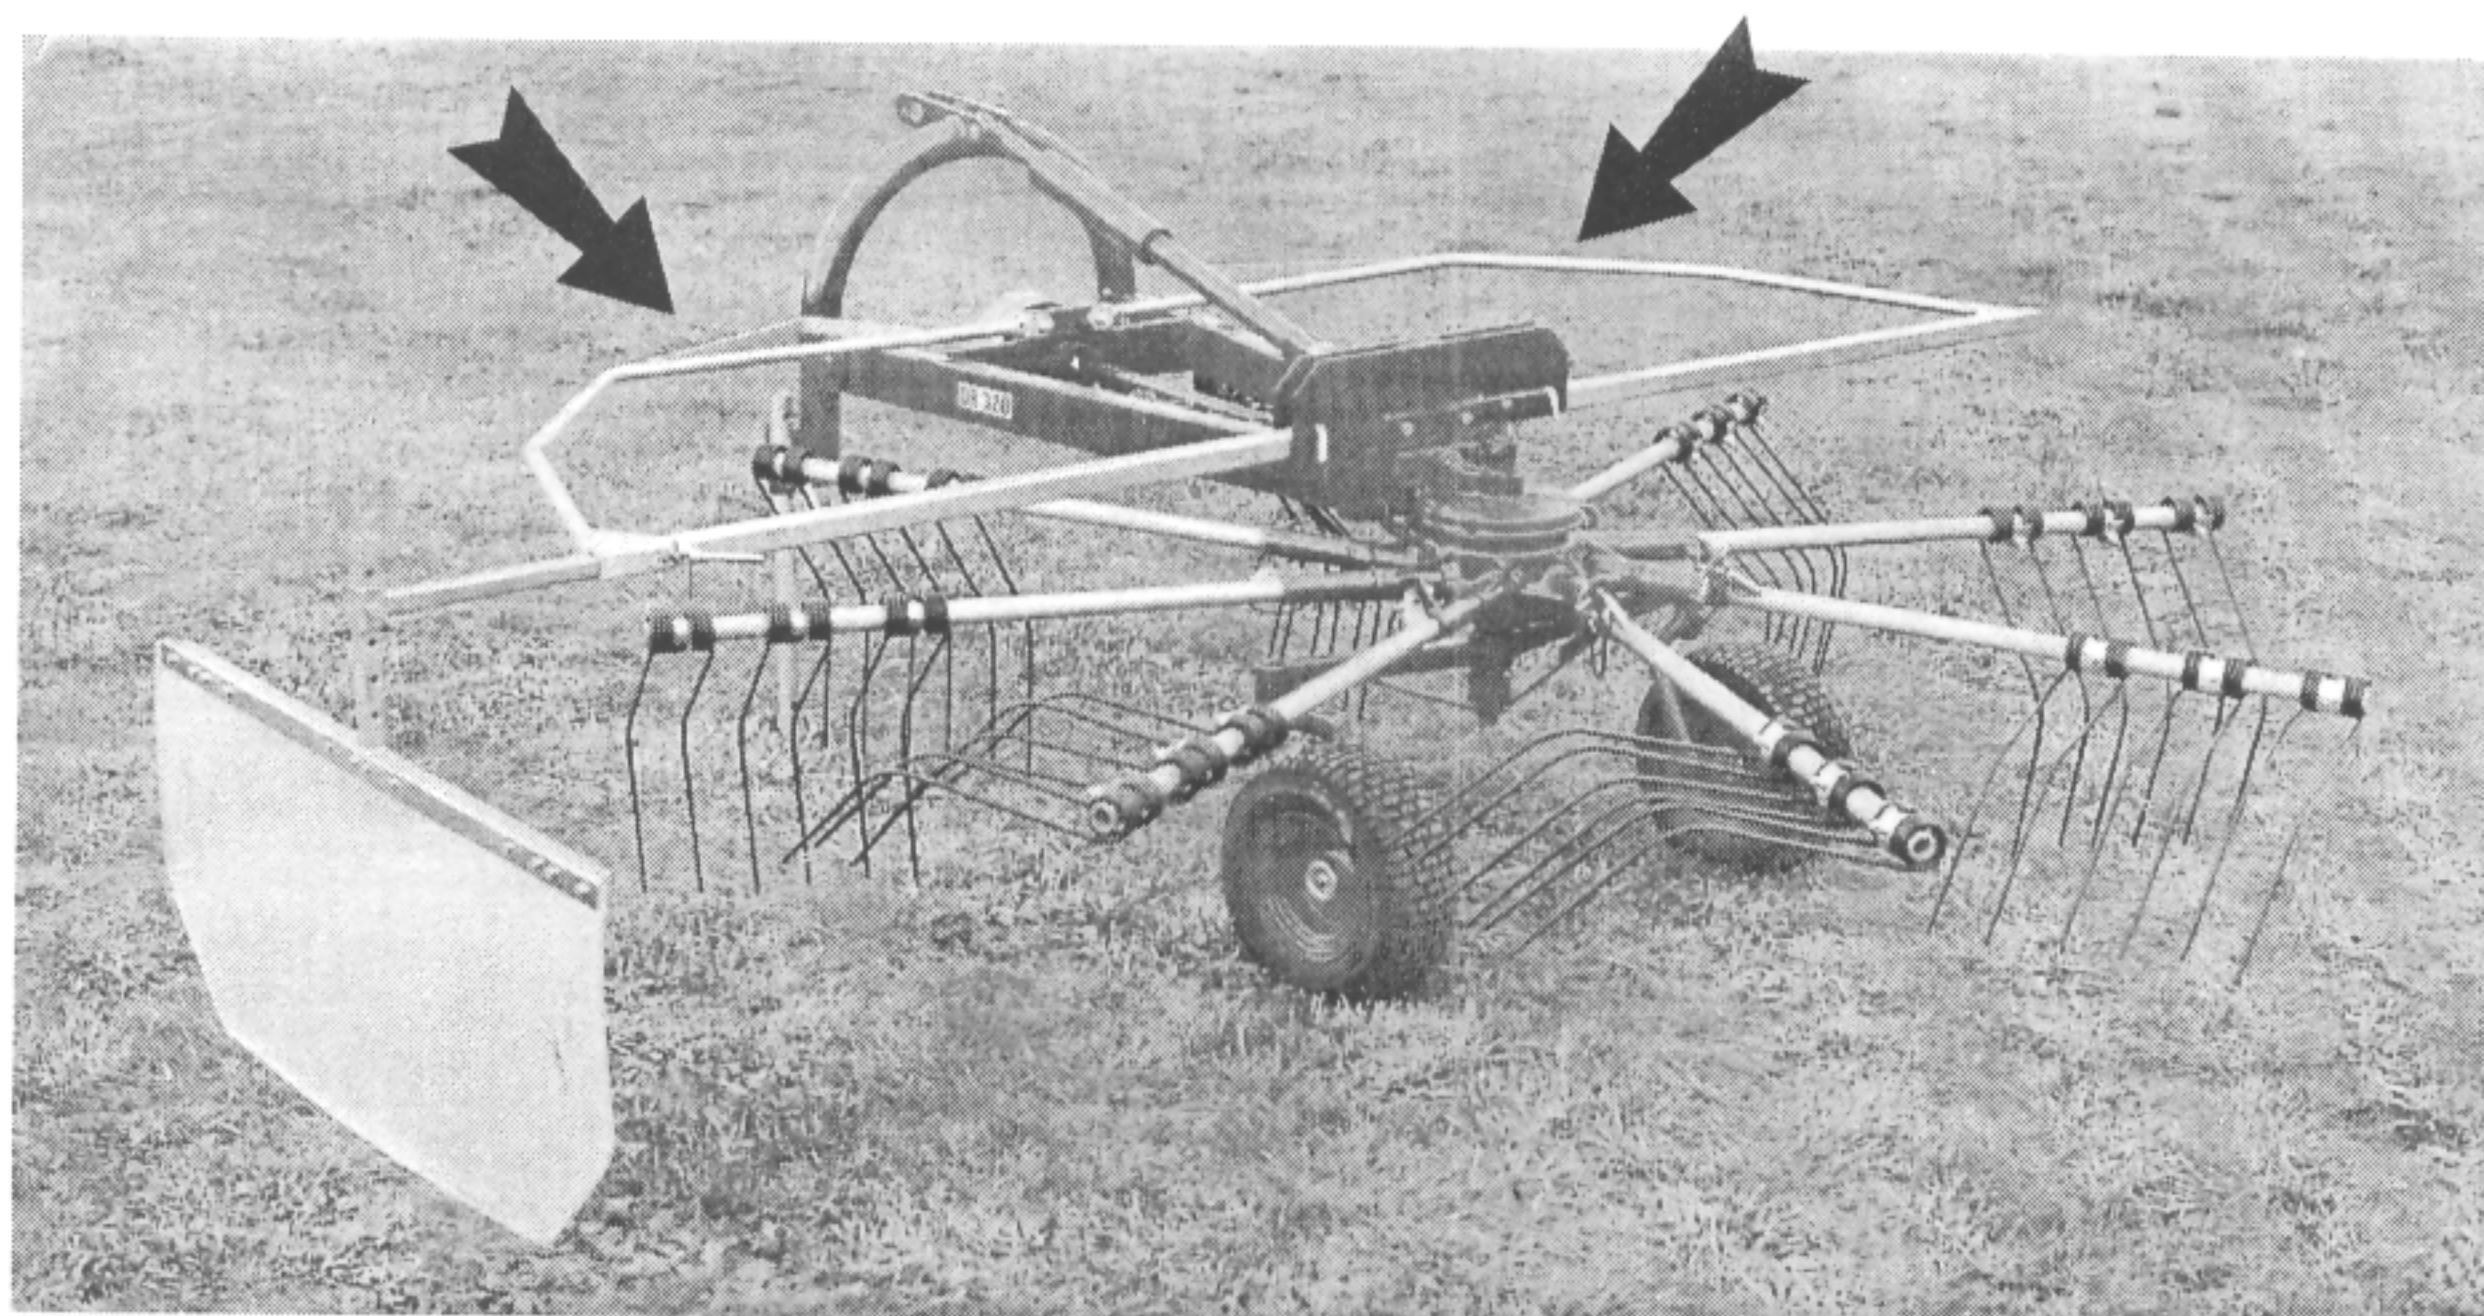

FIG. 4.1
- During working operations, operator must make sure that bystanders are clear and faraway from unit even if machine is fitted with protection guards (see Fig. 4.1) to prevent impact of tine arms.